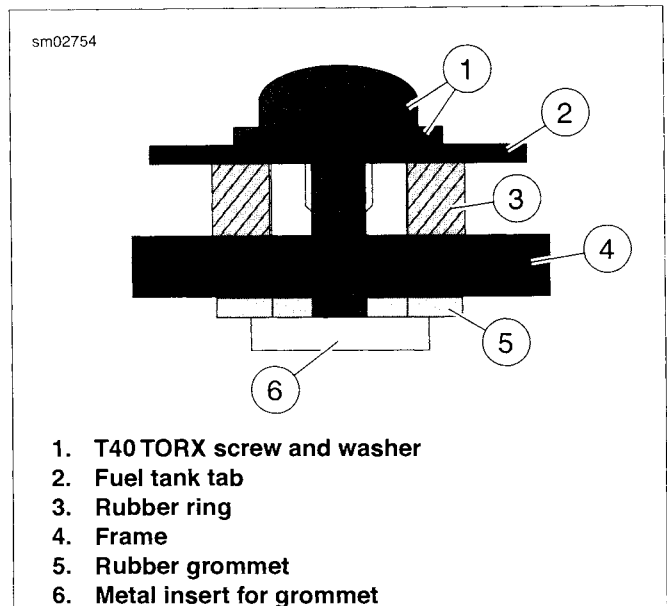

Figure 4-10. Rear Tank Screw: All But FXCWC
- b. See Figure 4-10. Verify that rubber grommet (5) and metal insert (6) are protruding through frame (4). Metal insert has flats on bottom for positioning. Place rubber ring (3) around grommet/insert and lower fuel tank tab (2).
- c. Install washer and rear T40 TORX screw (1) through fuel tank tab. Tighten to 18-22 ft-lbs (24.4-29.8 Nm).